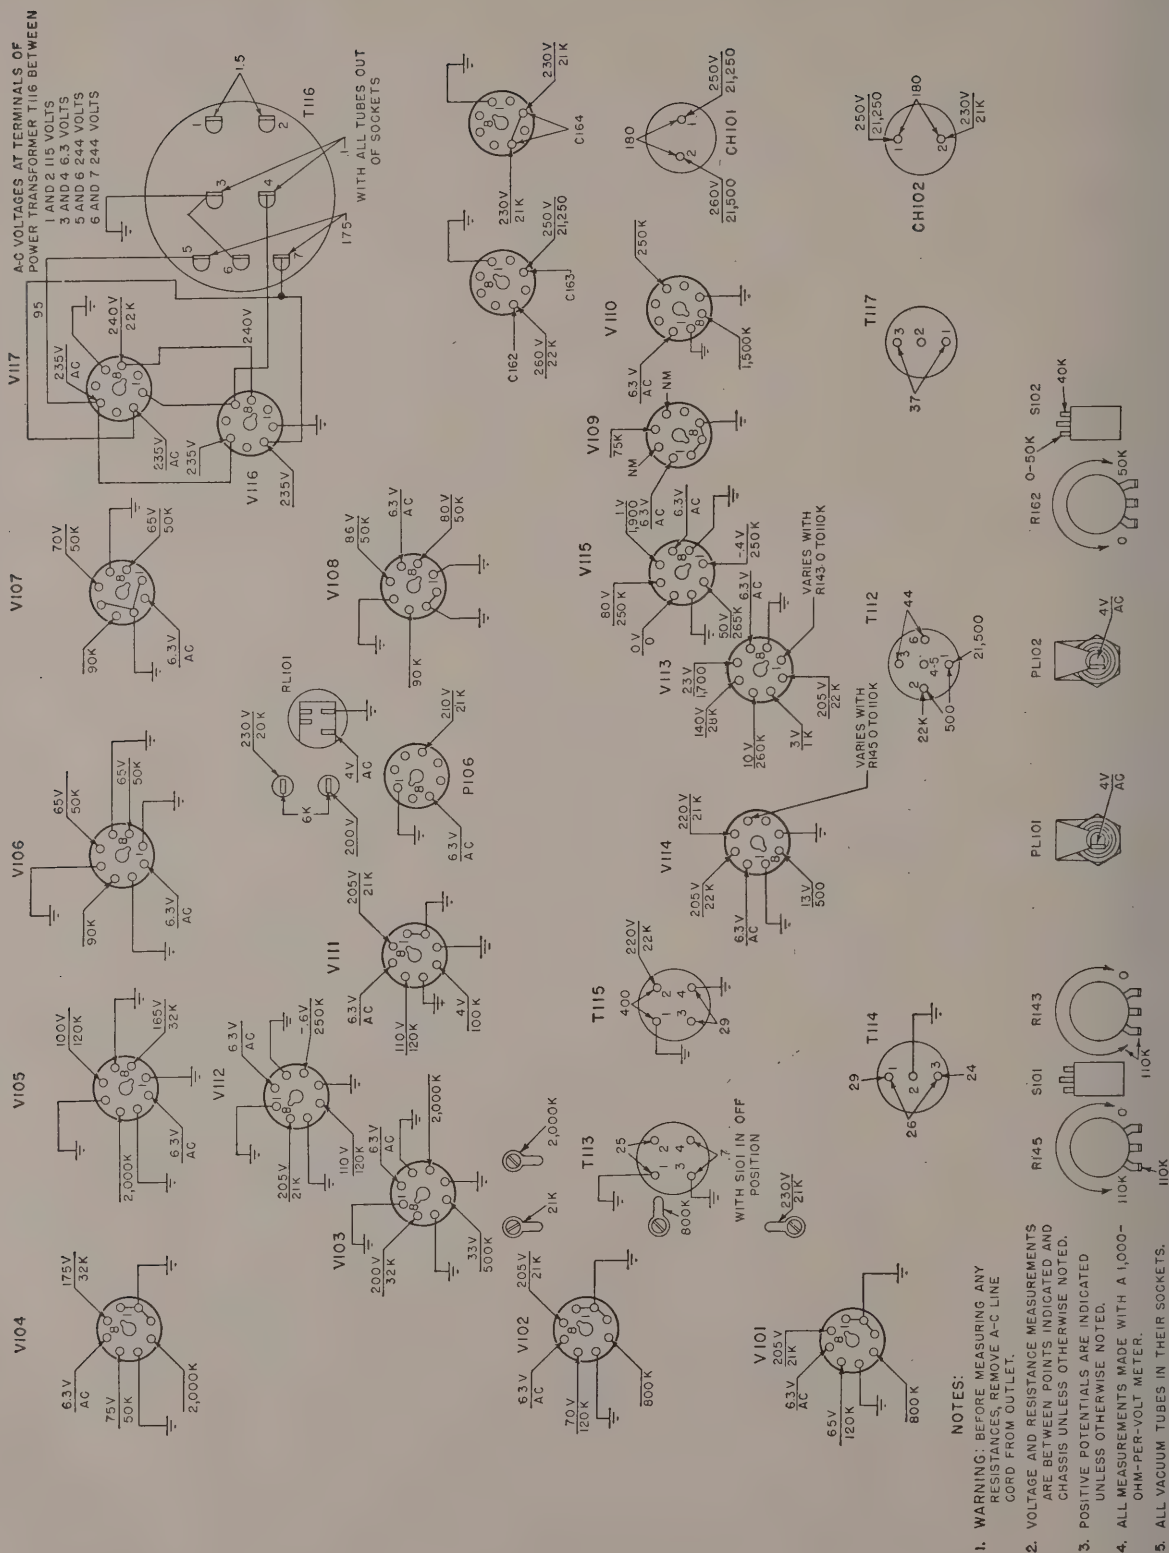

Figure 161. Voltage and resistance diagram of early receivers.
a. **RADIO RECEIVER R-19(*)/TRC-1.** The resistance between pin 8 of V116 and ground should be about 20,000 ohms. Check the schematic of the receiver being worked on if the voltage or resistance readings do not match those of figure 161 or figure 162.
- (1) The ohmmeter pointer should first move toward the zero resistance point, then slowly swing back to 20,000 ohms. This is a normal indication due to the charging of the filter capacitors. If the meter reads about 20,000 ohms, the resistance of the B+ circuit is all right.
- (2) If the reading is zero or some low value of resistance, remove the tubes one at a time, watching the ohmmeter. If the reading goes from zero resistance to 20,000 ohms after pulling the tube, a short within that tube is indicated. Replace the tube with a good one and check again. Be careful not to leave the ohmmeter connected for long periods of time, because the battery will be weakened.
- (3) If removal of the tube does not change the reading to 20,000 ohms, the short is in the circuit. Check filter capacitors C162, C163 (not in the H model), and C164 by measuring the resistance across each. Disconnect the capacitor first. If the resistance across any of the
The following charts (pars. 236 through 240) are supplied as an aid in locating trouble in the radio receiver, transmitter, and power pack. The charts list the symptoms which the repairman observes, either visually or audibly, while making a few simple tests. *The chart also indicates how to localize trouble quickly to the audio, i-f, or r-f stages of the receiver.* Signal substitution tests then can be used to supplement this procedure and to determine the defective stage. Once the trouble has been localized to a stage or circuit, a tube check and voltage and resistance measurements of this stage or circuit should ordinarily be sufficient to isolate the defective part. Normal voltage and resistance measurements are given in figures 161 through 168.
d. Location of trouble in the receiver is made more difficult, because the individual r-f stages are not all metered. Any one of the stages, V101 through V107, V111, or V112, could be responsible for an improper reading on the tuning meter in METER SWITCH position 1 or 2. If trouble develops in any one of these stages, and defective tubes or misalignment are not the cause, each stage will have to be given an individual resistance and voltage check and compared to the readings of the voltage and resistance charts (figs. 161 through 168).